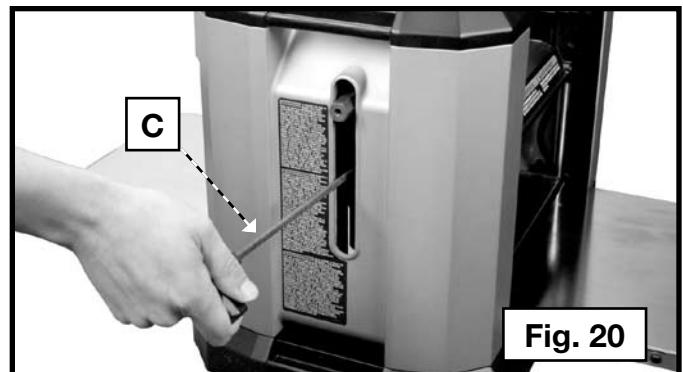

Fig. 20
3. Insert the supplied wrench (C) Fig. 20 into the hex hole. Rotate the cutterhead until the cutterhead lock engages.